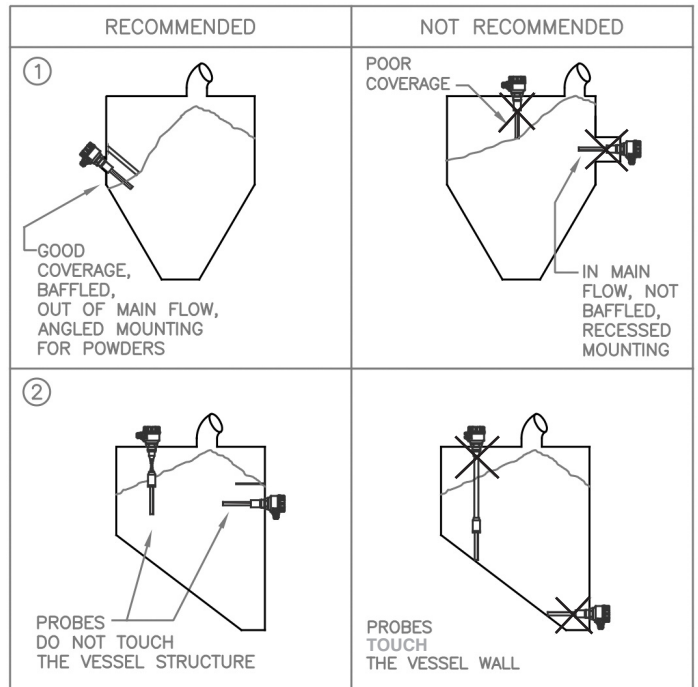

Figure 1
**Choosing a Location:** (See Figure 1)